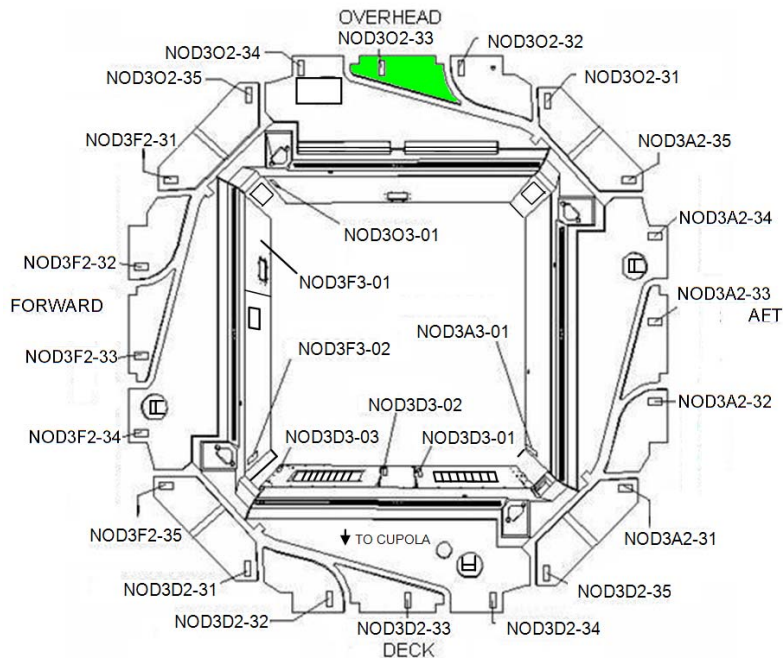

Figure 1.- Node 3 Radial Bay, looking Starboard.
- 1.1 If required, remove launch restraint bolts (two) from Closeout Panel NOD3O2-33 (Driver Handle, 1/4" Drive; 5/32" Hex Head, 1/4" Drive). Stow Bolts and Washers in Ziplock Bag for later disposal. Refer to Figure 1.
Refer to Figure 1.